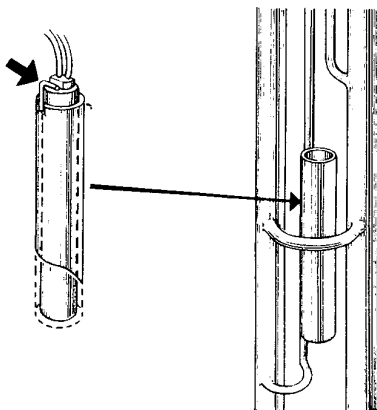

Fig. 48
- 4) Lock the heater in position by means of the hook on the heater pocket. See fig. 48.